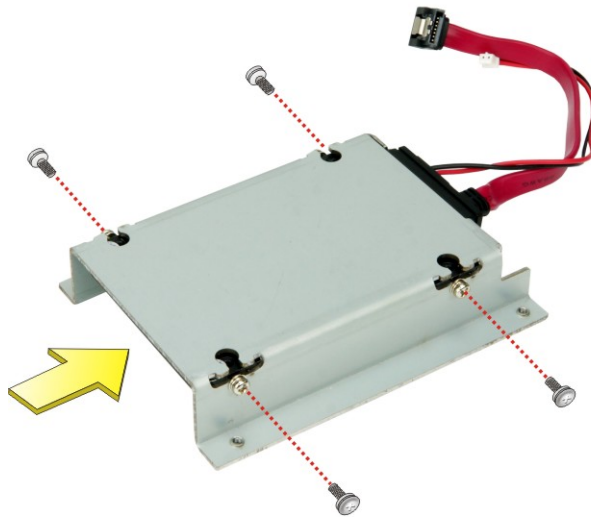

Figure 3-10: SSD Retention Screws
Step 4: Align the retention screw holes in the SSD with those in both sides of the bracket. Secure the SSD with the bracket by inserting four retention screws (M3*5) into the sides of the bracket (**Figure 3-10**).